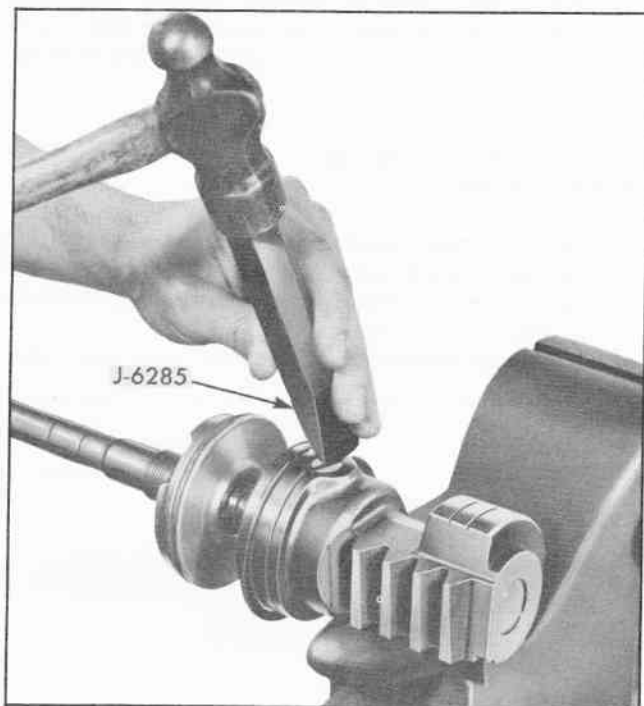

Fig. 77 Staking Ball Nut Retainer Screw
8. Install ball nut retaining screw and tighten to 20 to 25 lb. ft. torque using Tool J-6223. Stake screw securely in two places using Tool J-6285 (Fig. 77). Lubricate piston rings and install on rack-piston.